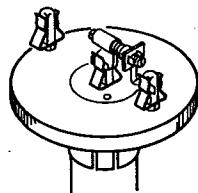

Figure 5-3. Test Component Installed for Checking High Impedance Ranges
f. Install accessory 00601A (Component Mounting Adapter) and mount a small trimmer capacitor (-hp- Stock No. 0132-0005). See Figure 5-3. Adjust trimmer for OHMS Meter reading of .95 (95% of F. S.) (on 1K RANGE)